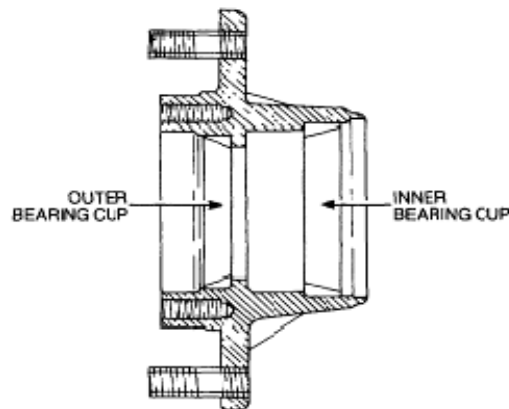

Figure 86 Bearing Cup Installation
- a. Using a suitable drift or press, install the bearing cups ensuring that the wide sides are towards each other (Figure 86).